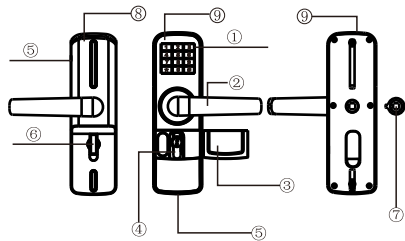

Figure 1
1. Lock Diagram (figure 1)
- ① Digital keypad
- ② Handle
- ③ Keyhole cover plate
- ④ Keyhole
- ⑤ USB interface
- ⑥ Double lock knob
- ⑦ Rotating wheel
- ⑧ Back panel
- ⑨ Front panel